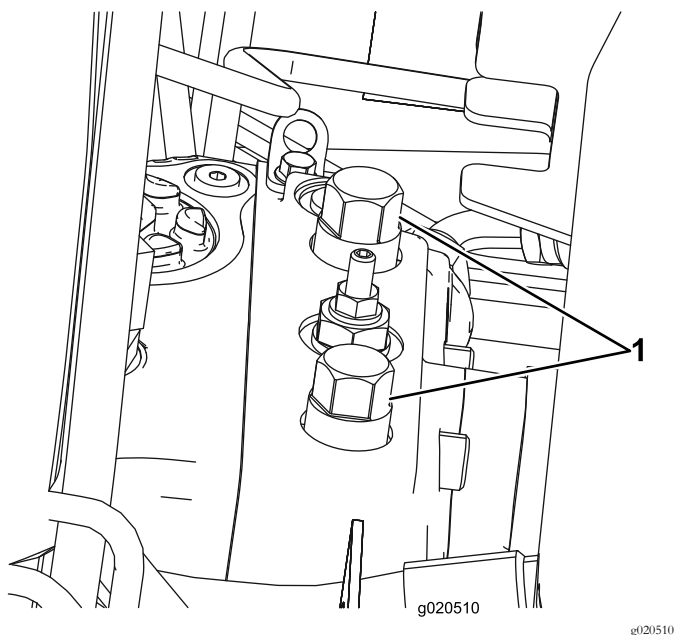

Figure 25
1. Open the hood and locate the bypass valves (Figure 25) on the top of pump, behind the battery/storage boxes.